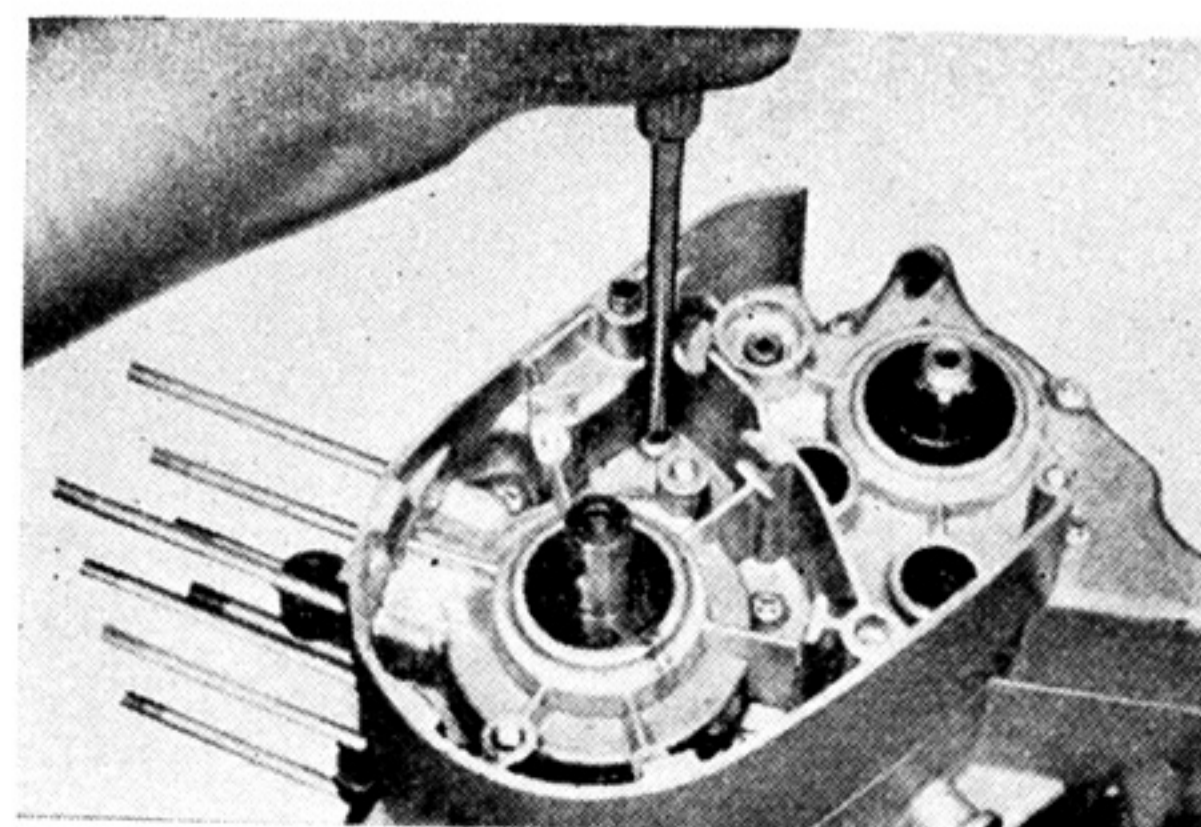

Fig. 3-14-1
- a. Remove the pan head screw on the left side crankcase. (Fig. 3-14-1)